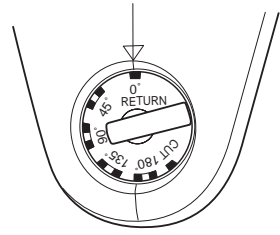

Fig. 8
- Removing (Fig. 8)
Set the setting dial to the "RETURN" position as shown in Fig. 8 and pull the switch trigger again.